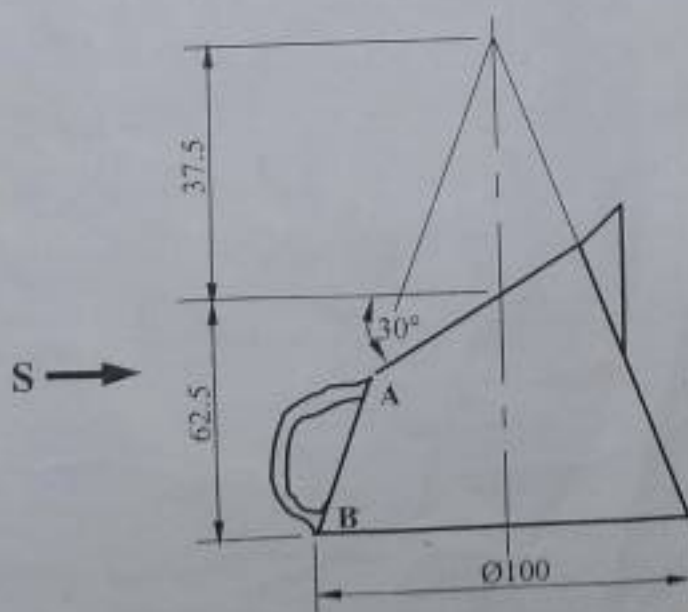

Figure 4
6. A front elevation of the body of a small metal jug is given in Figure 4. Draw full size the following: